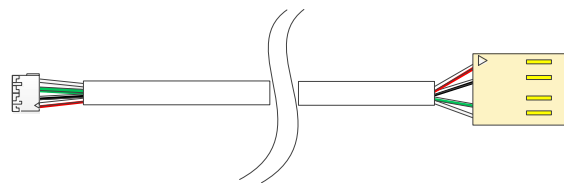

Figure 3 – Connector Cable IP150/UC300 to PCS250/PCS250G
**Note:** If you are programming the UC300 using the 307USB disconnect the PCS250/PCS250G, from the UC300 and connect the 307USB to the serial port. You may need to replace the serial cable with the cable in *Figure 3* within the 307USB.
2. Plug in the PCS250/PCS250G cable between the UC300 serial port and the PCS250/PCS250G serial port. See *Figure 3* for the proper cable.
4. Plug in the IP150 to the PCS250/PCS250G using the IP150 PCS250/PCS250G port and the PCS250/PCS250G serial port. See *Figure 3* for the proper cable.